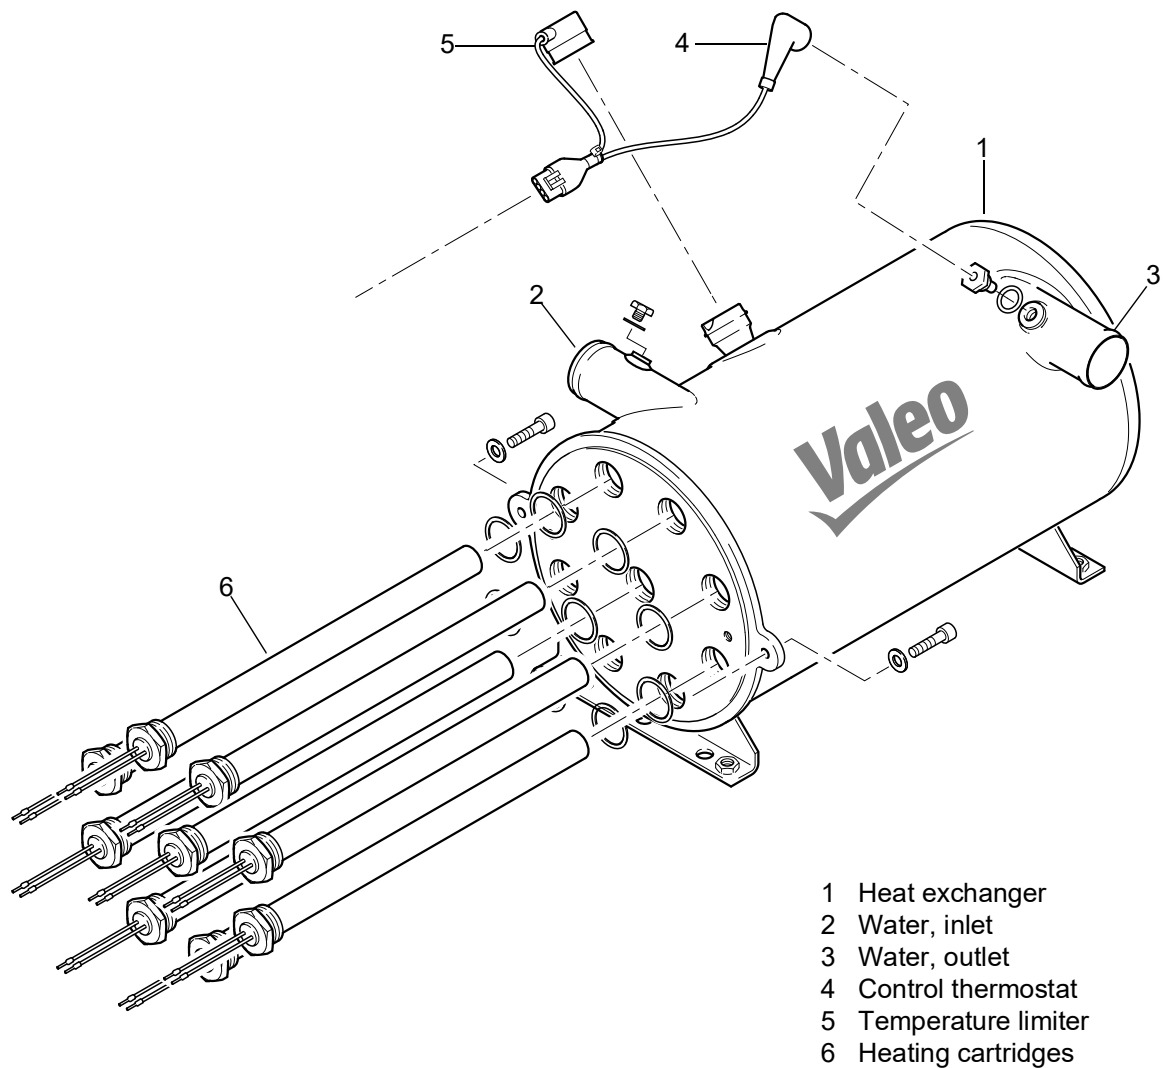

Fig. 304 Heat exchanger with installed on/in it components (exploded)
In the heat exchanger (1, Fig. 304) the water flowing through is heated by heating cartridges (6) arranged in it. The cylindrically welded construction has a water inlet (2) and a water outlet (3). The heater is integrated into the cooling water circuit via these two connection ports. In the water outlet (3) the control thermostat (4) is screwed in. In the wall of the heat exchanger the temperature limiter (5) is installed. The plate at the front has receiving openings with threads for the heating cartridges (6).
At the end of the rod-shaped, water-proof heating cartridges (6, Fig. 304) there is an external thread with a hexagon for screwing in and the electrical cables are led out.
The control thermostat (4, Fig. 304) captures the coolant temperature at the heat exchanger outlet.
The temperature limiter (5, Fig. 304) protects the heater from unacceptably high temperatures. The temperature limiter switches off the heater at a temperature greater than  $125 \text{ }^\circ\text{C}$ .